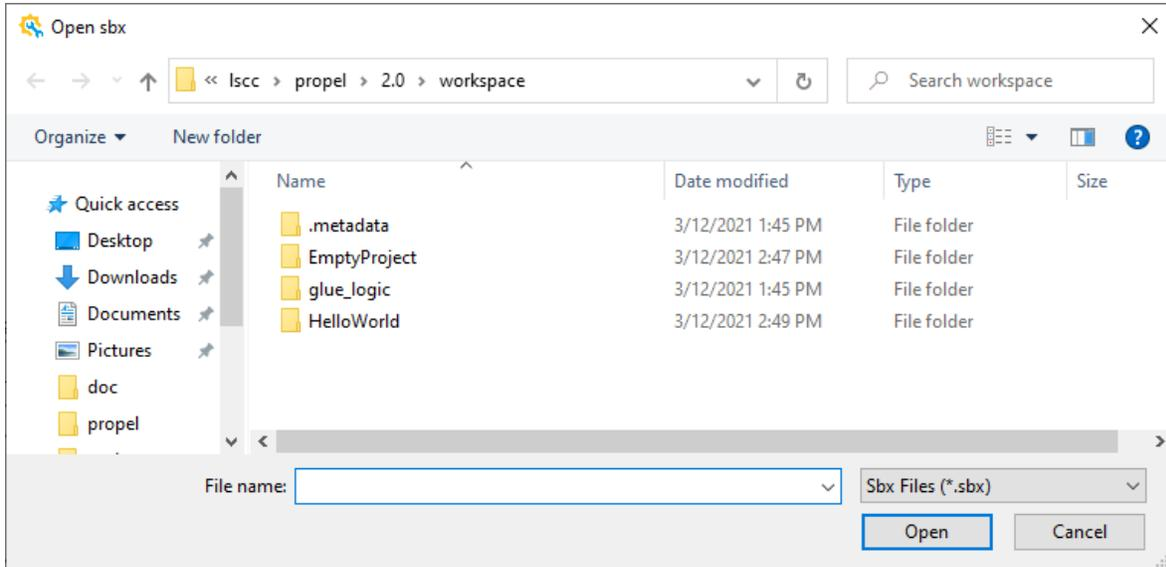

Figure 2.12. Open Sbx Dialog
1. Choose **File** >  **Open Design** from Propel Builder GUI Menu, or Click **Open Design** icon  from Propel Builder Toolbar. The Open sbx dialog opens (Figure 2.12).